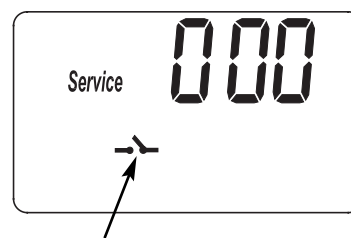

FIG. 36
3. Symbols in the display indicate POSITION switch operation (See Figures 36 & 37).